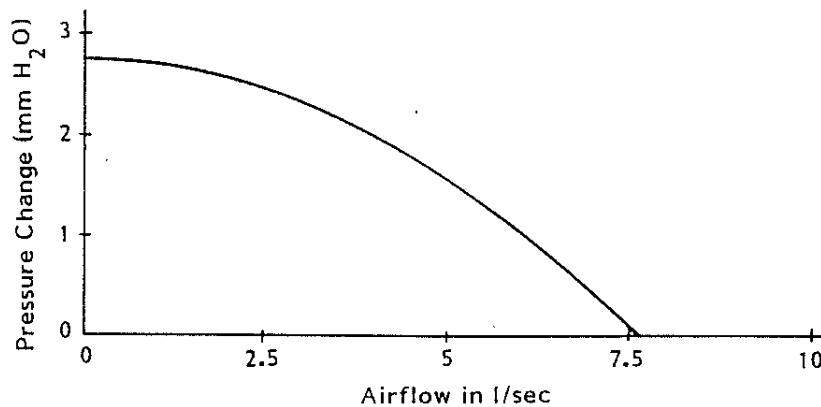

Figure 1-3, Model 1261A Mainframe Cooling, Worst Slot Curve
- 1.2.1 Figure 1-3 shows the mainframe cooling worst slot curve.